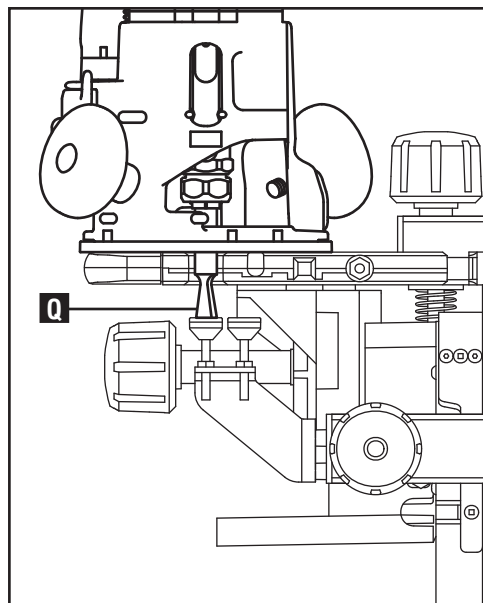

Fig. D9
13. Slowly lower bit (Q) Fig. D9 onto stop. Depth is set when bit barely touches the stop.